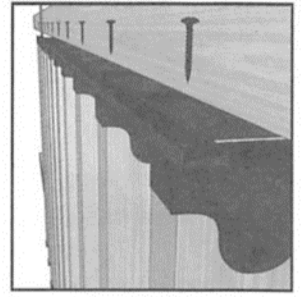

Figure 6
**STEP 6** To install operating bar, turn the boards outward and parallel to one another, with the top holes at the end of the bracket facing inwards towards your enclosed area. Fasten the pre-punched operating bar onto the bracket using the bar screws supplied (#6, 3/4 inch) ensuring the lip of the operating bar is facing upwards (Figure 6).